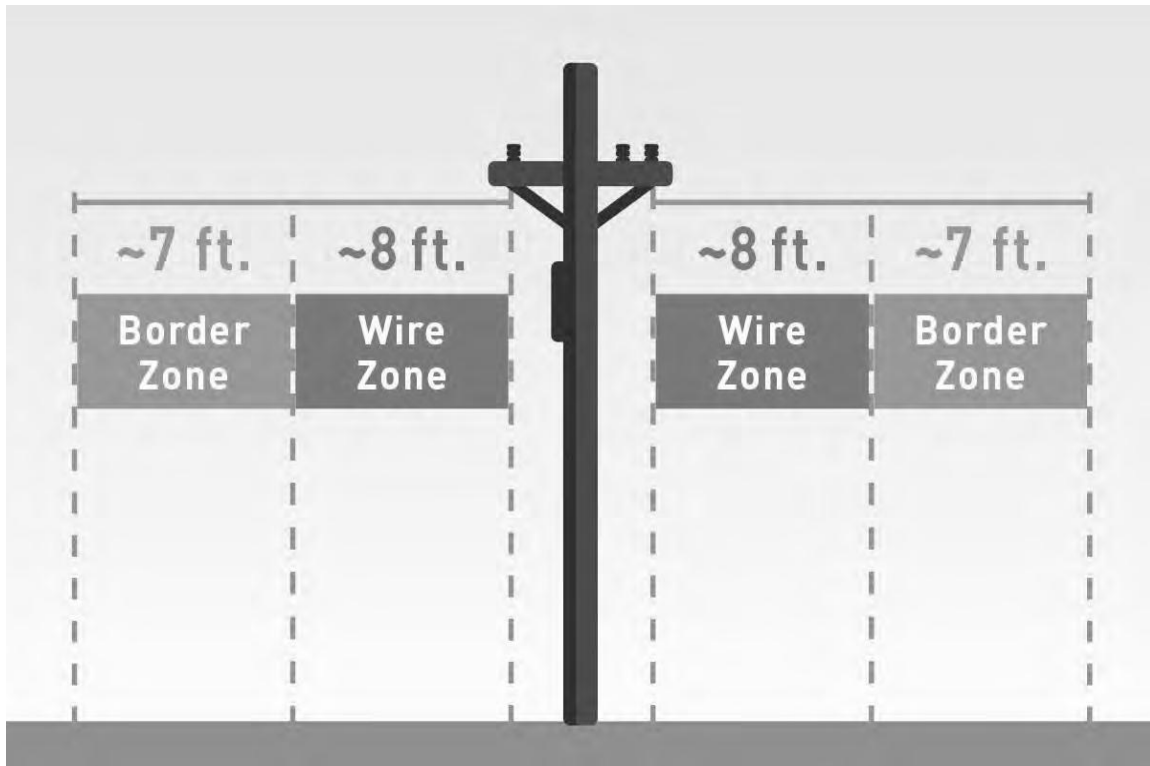
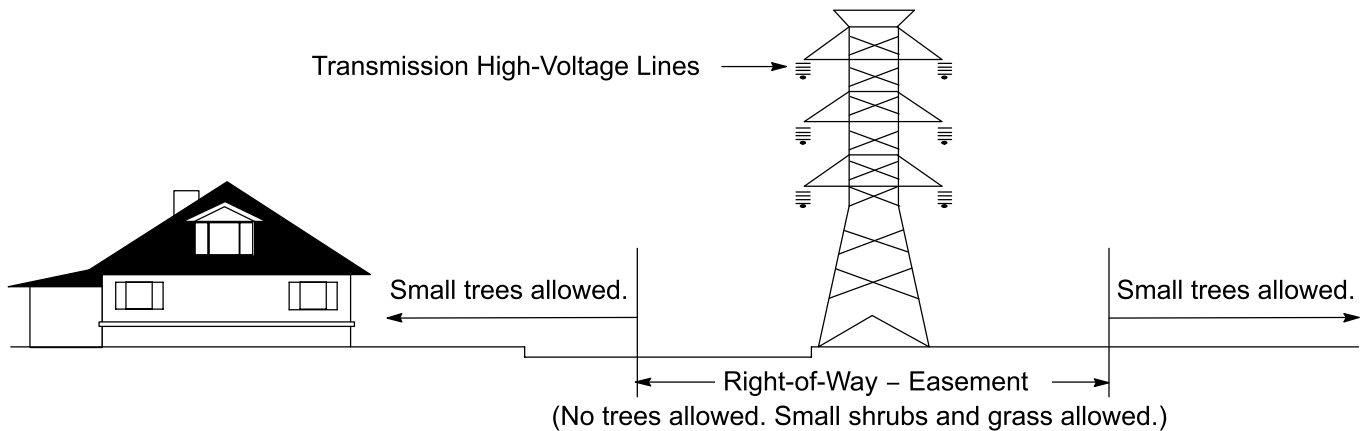

Figure 4-40
Figure 4-41
Applicants must **not** plant trees under or within 15 feet of **distribution** power poles. Applicants should landscape with low-growth, fire-resistant plants, shrubs, and flowers in the zone under electric power lines. PG&E recommends planting shrubs and flowers in low-growth zones to ensure compliance. Figure 4-40, "Illustration of 15-Foot Clearance, Low-Growth Zone," on Page 4-28, and Figure 4-41, "Grass and Shrubs Recommended Under Service Wires," on Page 4-29, illustrate low-growth zones and show how the 15-foot clearance is measured from the center of the pole.
- C. For all electric **transmission**, high-voltage lines rated greater than 60,000 volts, applicants must **not** plant trees within the right-of-way easement of the **transmission** poles or towers. Applicants must follow a "no-growth" zone inside rights-of-way areas, including under the electric power lines. The zone outside the rights-of-way areas is a "low-growth" zone, tree-planting zone, and/or a shrub-and-flower planting zone. Figure 4-41, "Grass and Shrubs Recommended Under Transmission Wires," on Page 4-29, illustrates a no-growth zone.
When planning and routing, high-voltage, overhead electric lines, applicants must avoid areas with heavy tree growth. See the tree-planting matrix tables (Tables B-1 through B-7 starting on Page B-2) in Appendix B, "Electric and Gas Service Documents." Building plans should indicate where overhead lines pass within the boundaries of the construction and landscape areas, as shown in Figure 4-40, "Illustration of a 15-Foot Clearance, Low-Growth Zone," on Page 4-28, and Figure 4-42, "Alternative Routes to a House Showing High-Voltage Lines and Tree-Clearance Zones," on Page 4-30.